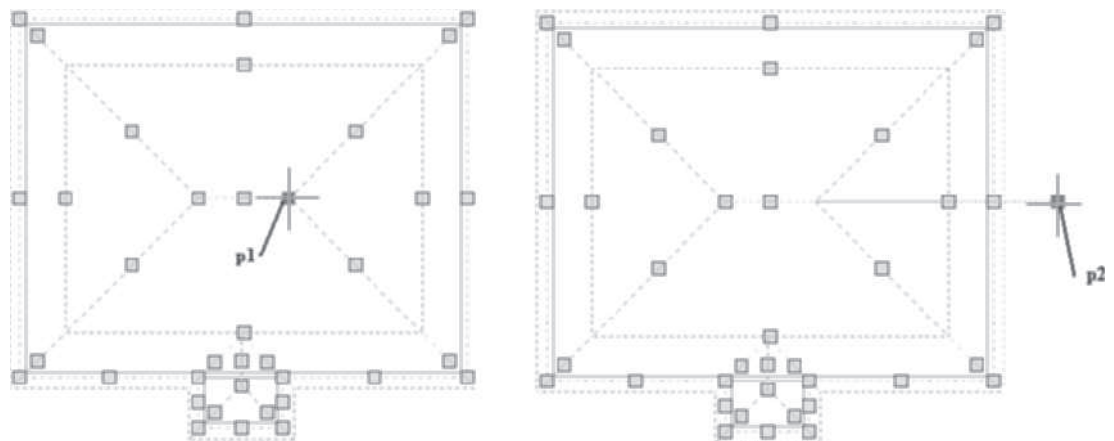

FIGURE 7.19 Upper slope ridge grip edited
8. Create a gable using grips, select the roof, and verify that grips are displayed. Select the ridge grip of the upper slope at **p1** as shown in Figure 7.19. Stretch the grip to a point near **p2** as shown at the right in Figure 7.19.